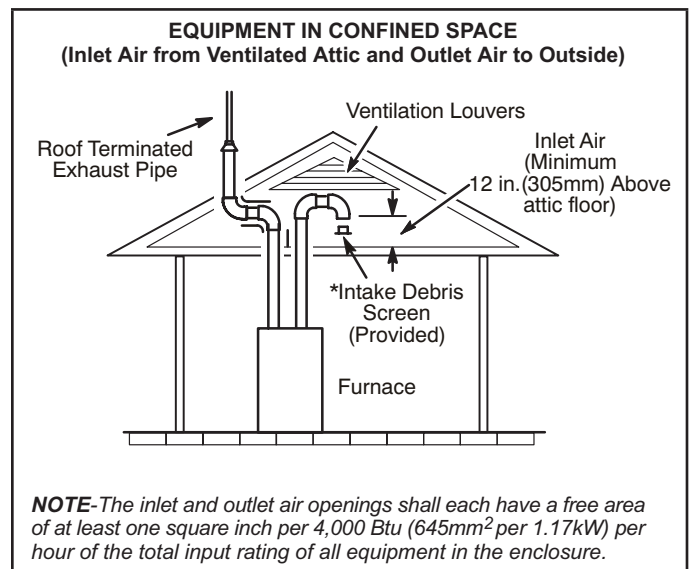
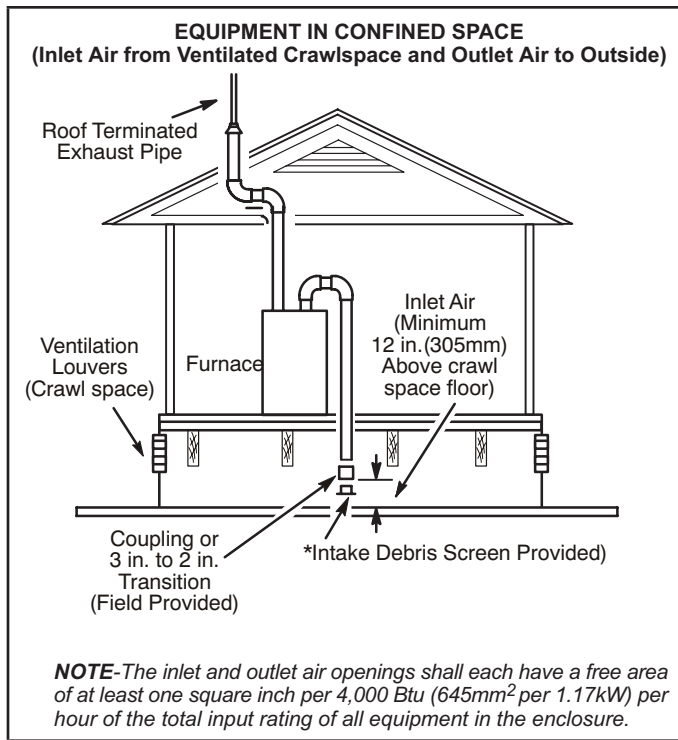

FIGURE 26
FIGURE 27
- 2 - If intake air is drawn from a ventilated attic (figure 26) or ventilated crawlspace (figure 27) the exhaust vent length must not exceed those listed in table 8. If 3" diameter pipe is used, reduce to 2" diameter pipe at the termination point to accommodate the debris screen.